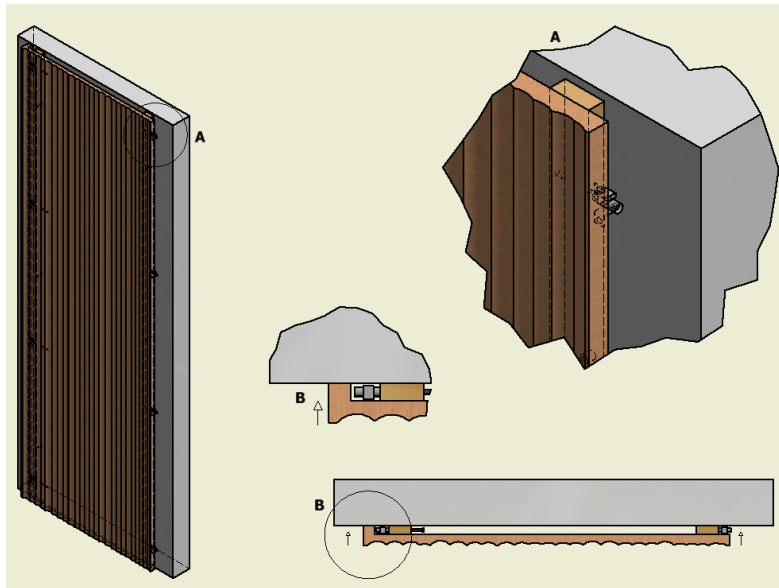

Fig. 5
2. **once the assembly of the rear structure has been completed, the panels can be assembled. (Figure 5)**